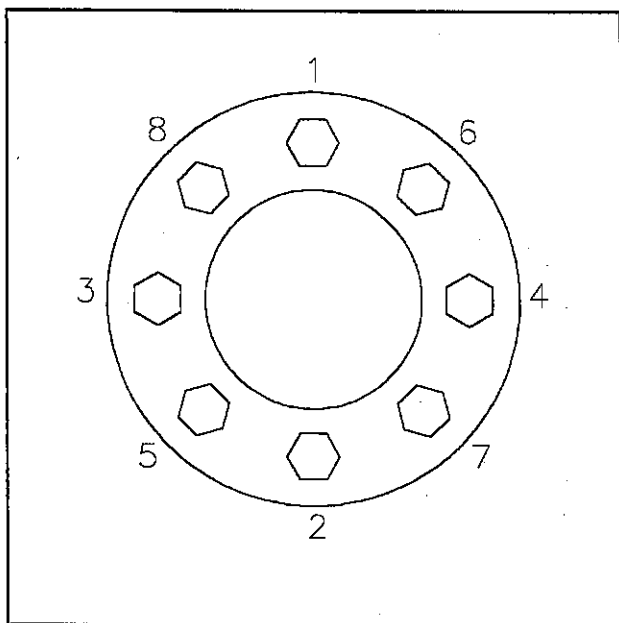

Figure 4-13 Stud Tightening Sequence
e. Install the flange nuts and tighten to 50 ft-lbs. in the sequence shown in Figure 4-13.
g. Tighten the flange nuts to full torque of 500 to 550 ft-lbs., using the same sequence illustrated in Figure 4-13.